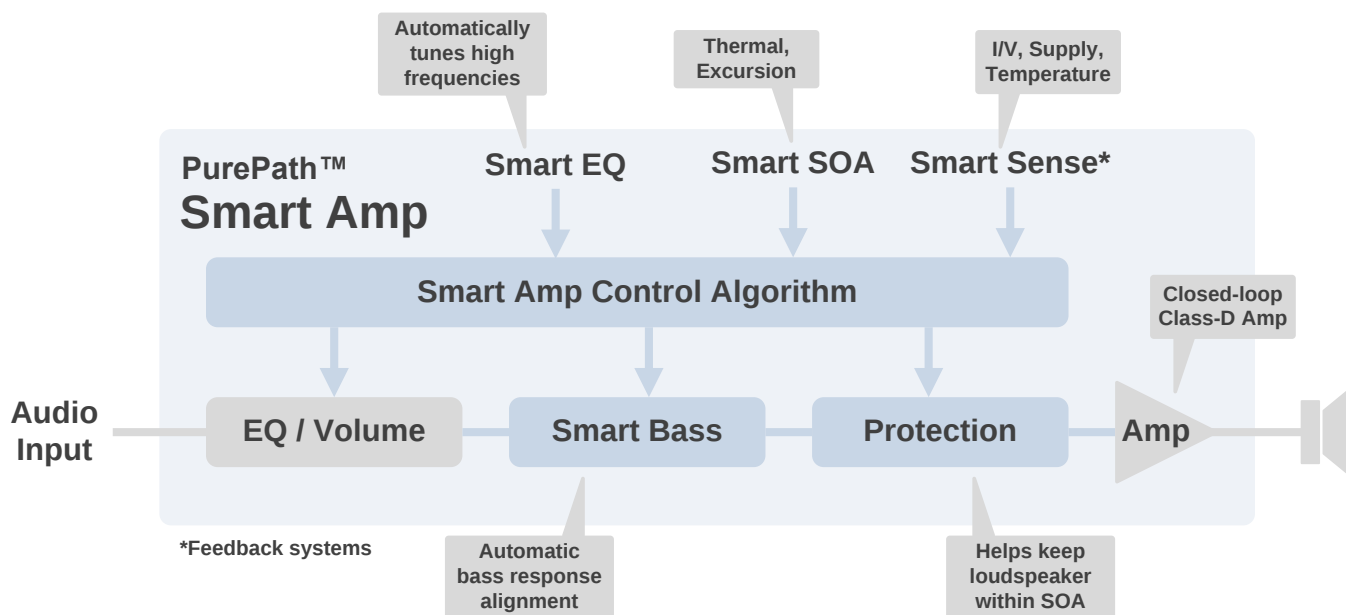

Figure 1. PurePath™ Smart Amp Block Diagram
- Added Section 1 with links to TAS5766M and TAS5768M - Changed Figure 1 Section 4.1 Hardware Tools: Added passive radiator information - Deleted Appendix A	2 3 7 8